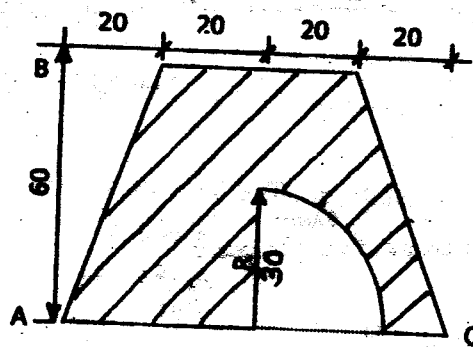
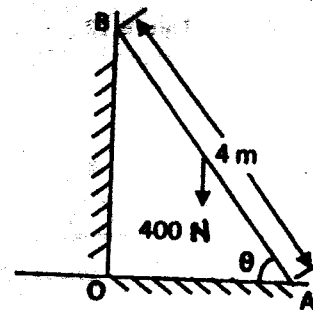

Figure 5
Figure 6
- c Locate centroid of the area with respect to A shown in Figure 5. Refer all the dimensions in mm. (06)
- Q-3 a Explain: a) Coefficient of friction b) Limiting friction force (02)
- b A ladder AB of length 4m and self weight 400 N rest with one end A on horizontal floor and other end B against vertical wall as shown in Figure 6. The co-efficient of friction for floor and wall are 0.4 and 0.25 respectively. Determine inclination of ladder with floor at which it starts sliding. (06)